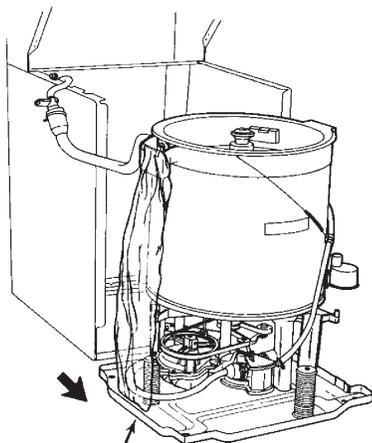

Fig. 5-13
14. The entire washer mechanism can now be pulled completely out of the washer/dryer cabinet. (Fig. 5-13)